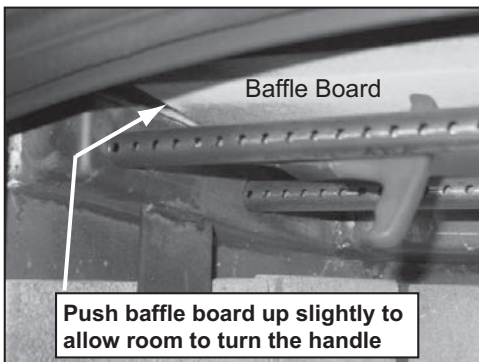

Figure 35.1
3. With a 3/16" Allen wrench, remove the front manifold tube retainer bolts on the air channel under the end of the front tube. **Figure 35.1.**